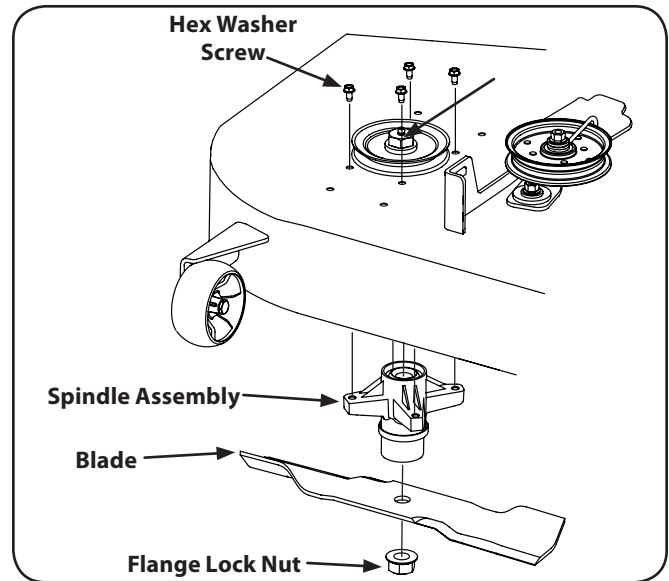

Figure 7-10
2. Use a ¾" wrench to hold the hex nut on top of the spindle assembly when loosening the hex nut securing the blade. See Fig. 7-10.